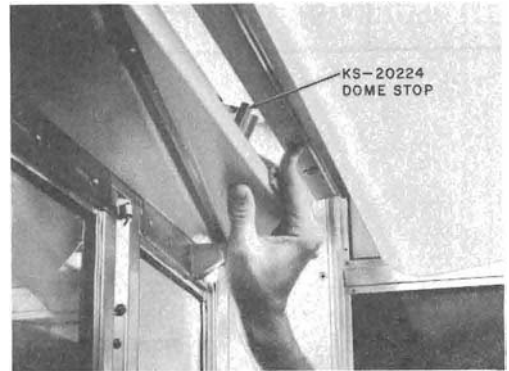

Fig. 5—Releasing Dome Stop
2.10 To lower the dome, push up on the dome stop as shown in Fig. 5. After dome is lowered, release and stop.